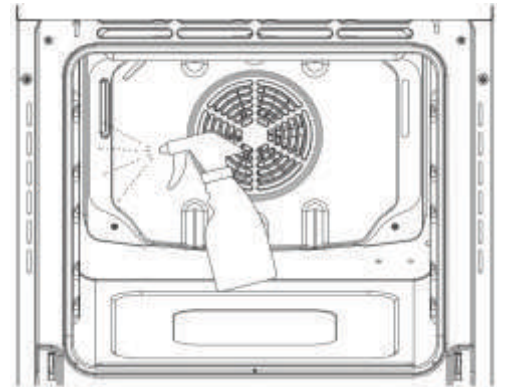

Fig.1
- Open the door to the full extent(fig.1);
- Double oven door: Remove the seal G by unscrew the no.2 bolts (fig.1)